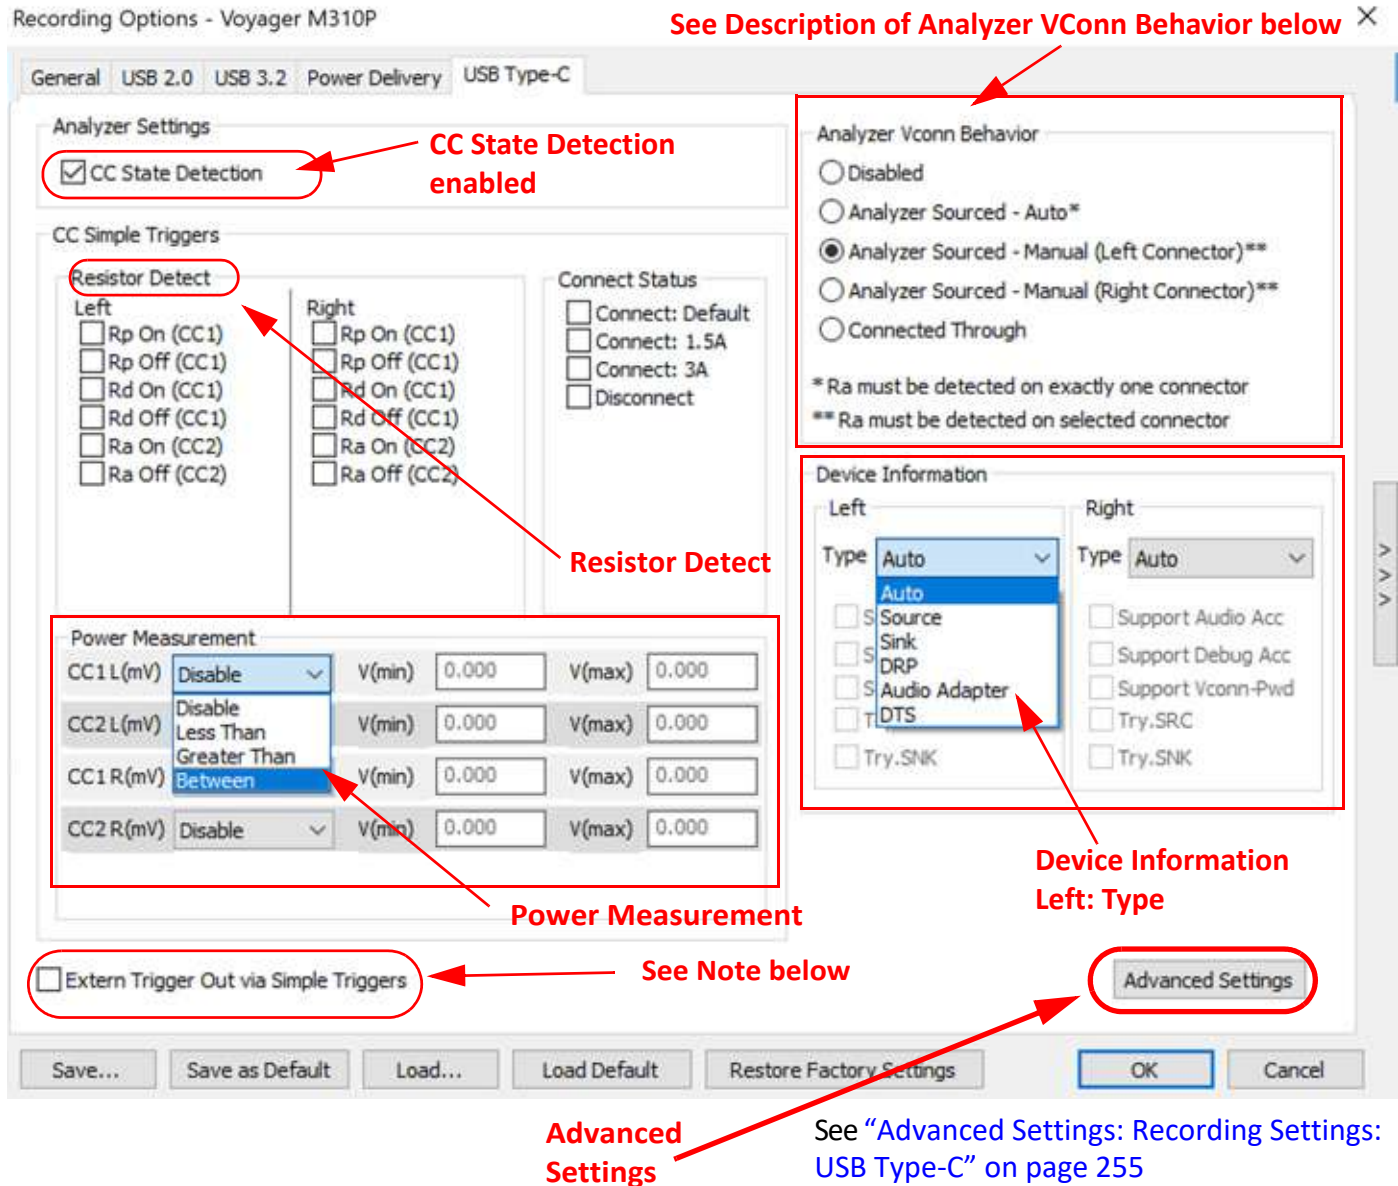

Figure 5.74: USB Type-C Recording Options -> Analyzer (Simple Mode) for M4x, M310P, M310C, T2P and T2C
- ❑ Analyzer Mode: Figure 5.74 on page 328